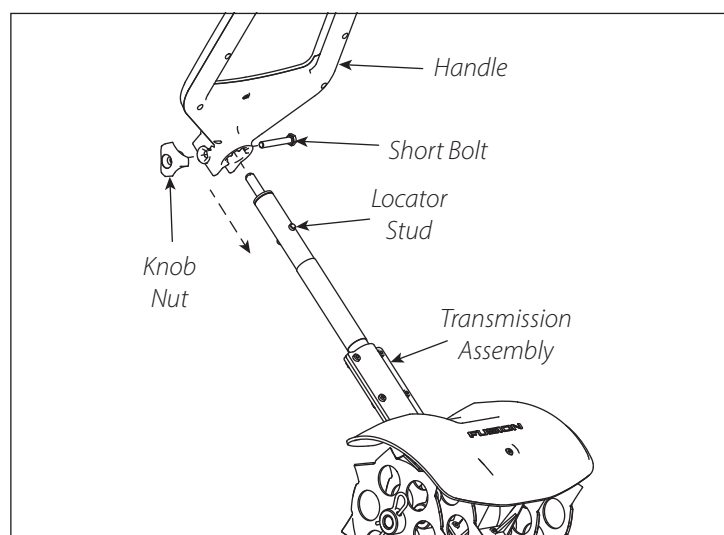

FIGURE 9
5. Slide the handle onto the transmission assembly so that the upper locator stud on the aluminum tube of the transmission assembly fits snugly all the way into the middle position pocket of the handle. Have the Fusion® logo facing toward the operator and drill. **SEE FIGURE 9**